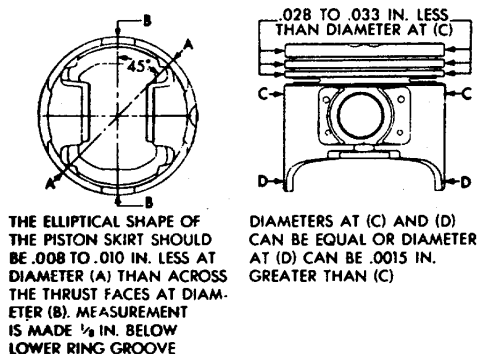

Figure 5-3. Piston Measurements
**5-83. PISTONS.** The pistons are cam ground so that the diameter at the pin boss is less than its diameter across the thrust face. This allows for expansion under normal operating conditions. The expansion forces the pin bosses away from each other, and the piston assumes a more round shape. Check pistons for taper and elliptical shape before they are fitted into the cylinder bores (see figure 5-3) The piston and cylinder wall must be clean and dry. The specified clearance between the piston and the cylinder wall is 0.005 to 0.0015 inch.